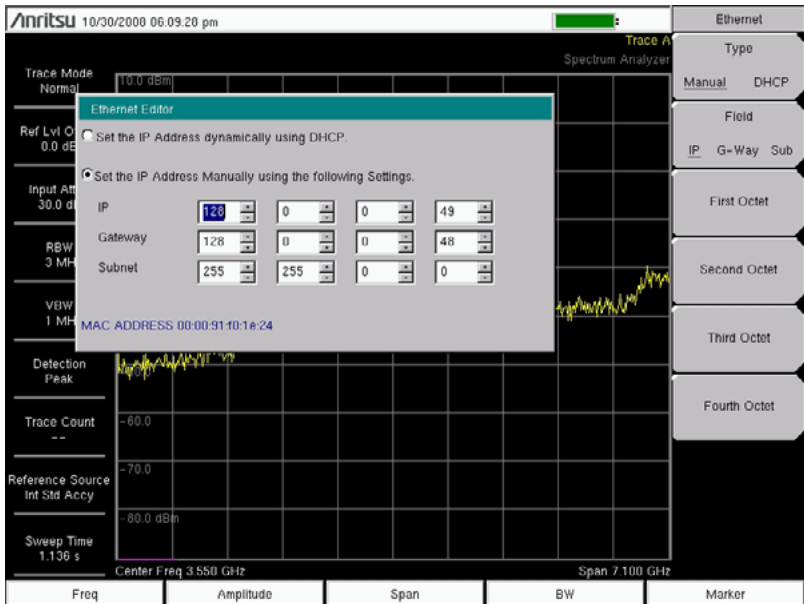

Figure 1-1. BTS Master Ethernet Configuration Editor
2. After the instrument has booted up completely, press the **Shift** key and then the **System** (8) key.
5. Press the Type soft key until Manual is underlined, not DHCP as shown in Figure 1-1.